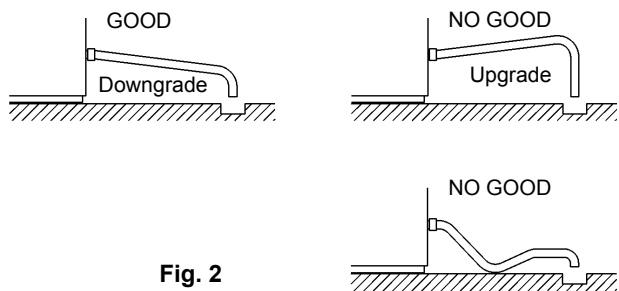

Fig. 2
- * To prevent a backflow into the Storage Bin, the outlet hose must be laid as shown in Fig. 2.